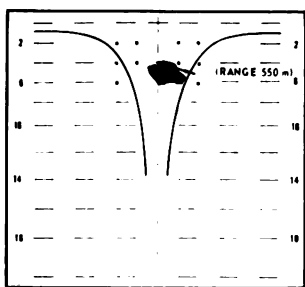

Figure 4.
(4) The tank is at the oblique and the width appears greater than the length (figure 4).